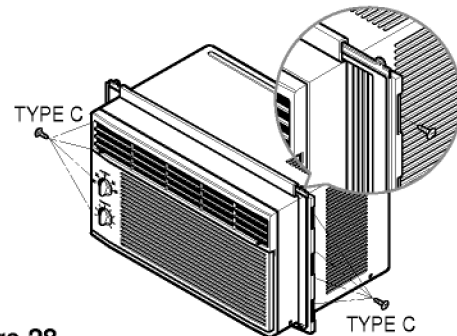

Figure 28
1. Insert the guide panels into the guides of the air conditioner. Fasten the curtains to the unit with screws (TYPE C), as shown Figure 28.